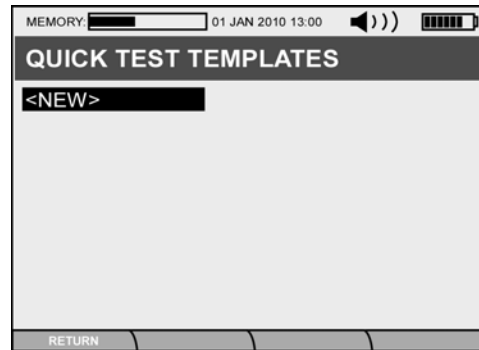

Figure 2.2. Quick Test Template screen.
Figure 2.2 and 2.3 show the two (2) screen required for setting up a **QUICK TEST**.
When arriving at the **QUICK TEST TEMPLATES** screen (Figure 2.2), the user will see <NEW>. Press the <ENTER> button to move to the **QUICK TEST SETTING** screen. You will now need to enter the following information as indicated in Figure 2.3. Details on each entry are described in the list below. After completing data entry for all of the sections listed below, you will return to Figure 2.2, however, a new **QUICKTEST** name will appear under <NEW>.